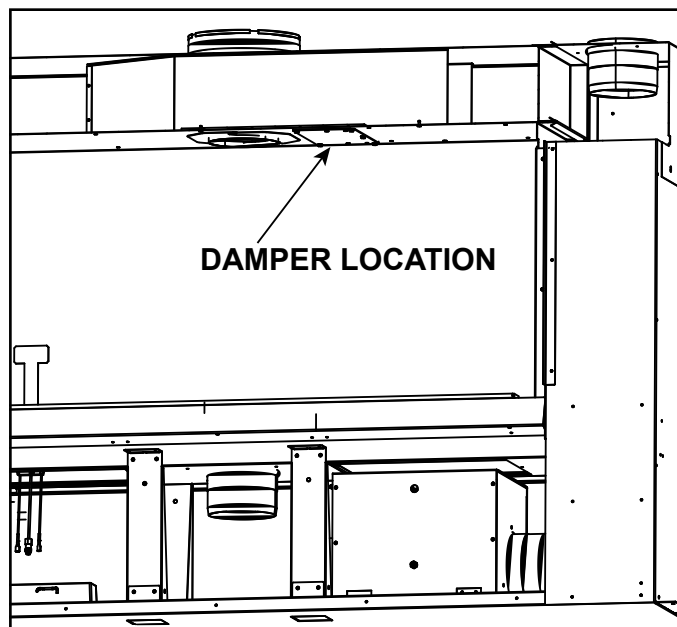

Figure 4.19 Damper Removal
3. Remove the firebox glass. Locate Damper. See Figure 4.19.